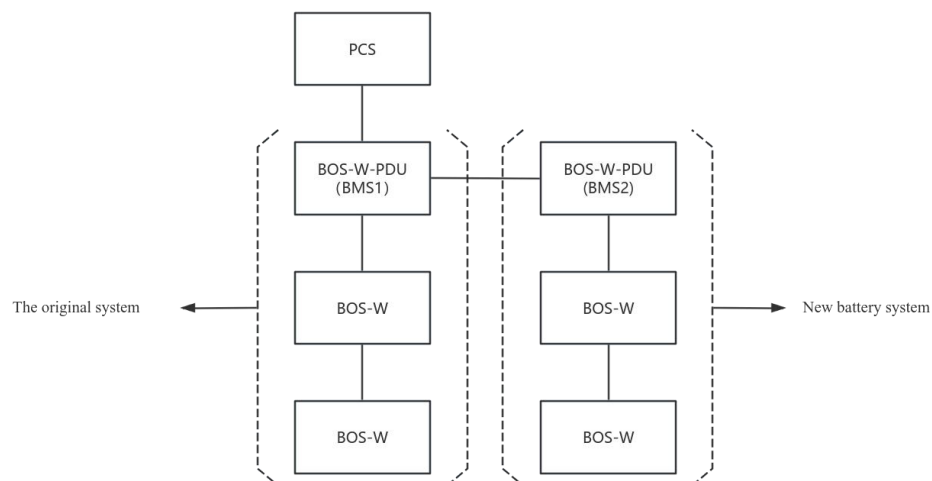

Figure2 Network diagram
Step 1: Verify the battery serial number (SN). If the manufacturing date difference between the new and old batteries is within two years, capacity extension is allowed.
Step 5: Please attach a terminal resistance to the out port of the last HV box when confronting a parallel communication issue. (The last HV box is BOS-W-PDU(BMS2) as figure 2)